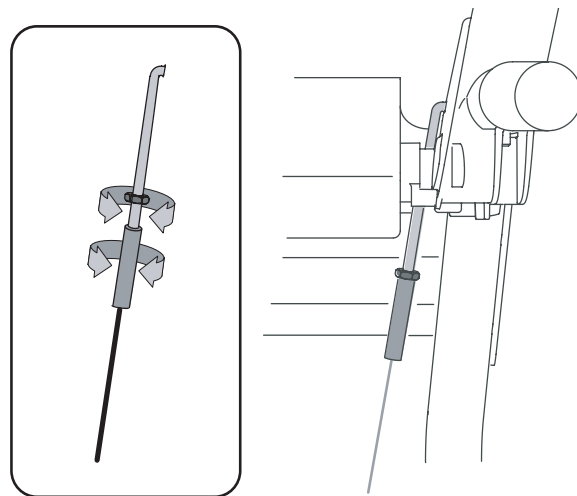

Figure 18
If any of the above tests failed, the drive cable is in need of adjustment. refer to Figure 18 and proceed as follows:
- Loosen the hex jam nut on the auger control cable “Z” fitting and rotate the coupling end (**without turning the cable**) of the cable downward to provide more slack or upward to take up slack. See Figure 18 .